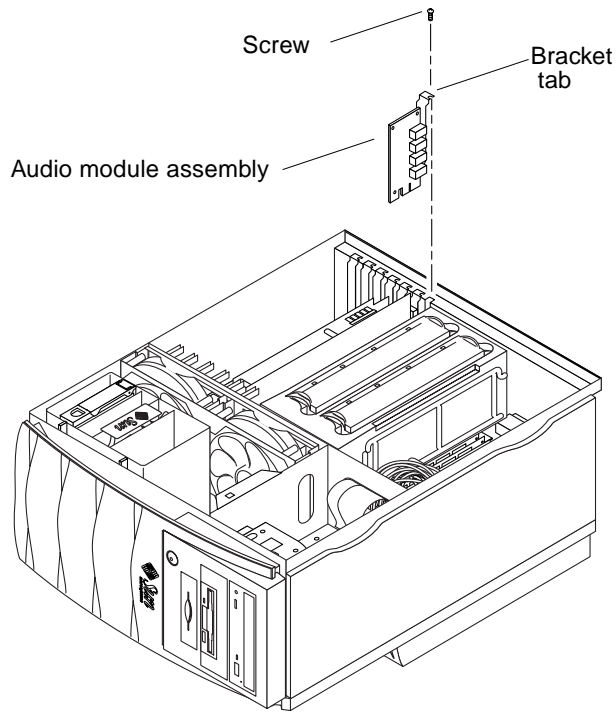

FIGURE 8-4 Removing and Replacing the Audio Module Assembly
4. **Using a No. 2 Phillips screwdriver, remove the screw securing the audio module assembly bracket tab to the system chassis (FIGURE 8-4).**
1. **Position the audio module assembly into the chassis (FIGURE 8-4).**